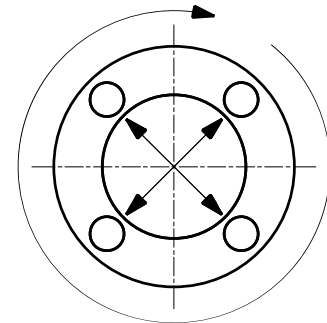

Figure 5.1-2
- 5) Using a torque wrench, gradually tighten diagonally up to the values in ""Table 5.1-2 Specified Flange Tightening Torque Values"". (Figure 5.1-2)
- 6) Then tighten clockwise for at least 2 rounds at the values in ""Table 5.1-2 Specified Flange Tightening Torque Values"". (Figure 5.1-2)